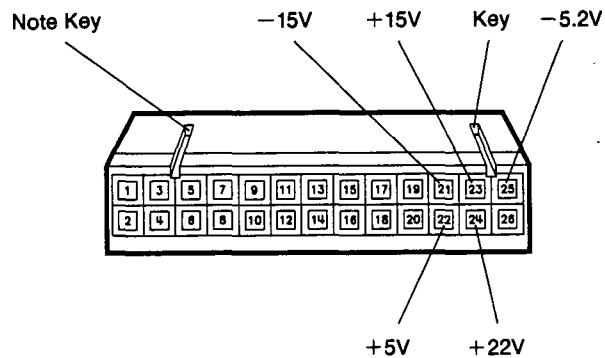

Figure 8. Voltages at Pins of W12P1
- If any voltage is incorrect, disconnect cable W12 at A51J1 and measure the same voltage at the end of the cable (see the top row of Table 6 and Figure 8).